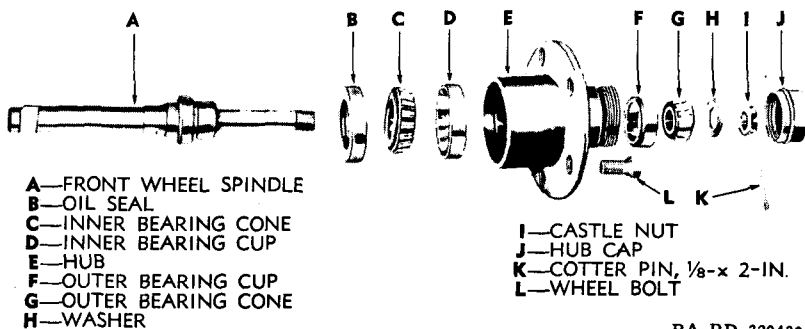

Figure 19 — Front Hub and Spindle Disassembled
a. **Remove Hub Assembly** (fig. 19). Remove five wheel cap screws (or nuts, as some early models were equipped with nuts), holding wheel to hub by turning counterclockwise. Drive off hub cap (early models only, drive cap can be identified because of lack of provision for wrench) or unscrew by turning counterclockwise (on later models). Remove cotter pin from nut on wheel spindle. Remove spindle nut by turning counterclockwise. Remove flat washer. Tap spindle and rear bearing assembly from hub and outer bearing with rawhide hammer so as not to damage threads.
c. **Remove Inner Bearing and Oil Seal** (fig. 19). Press wheel spindle from inner bearing and oil seal by pressing on threaded end of spindle.
35. ASSEMBLY (fig. 19).